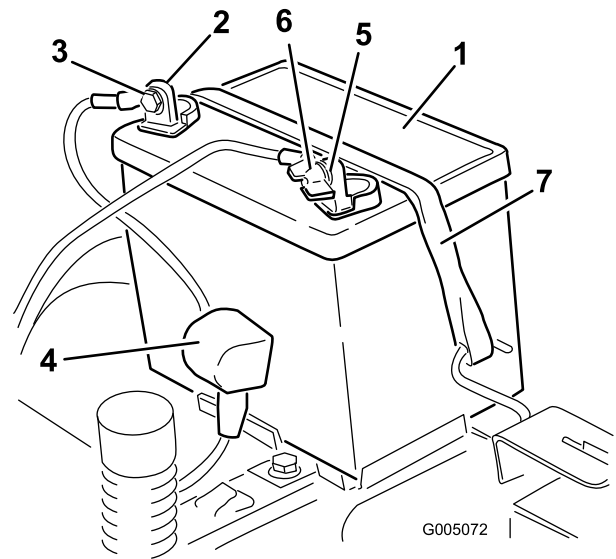

Figure 30
4. Disconnect the negative (black) ground cable from the battery post (Figure 30). Retain all fasteners.
5. Slide the rubber cover up the positive (red) cable. Disconnect the positive (red) cable from the battery post (Figure 30). Retain all fasteners.
6. Remove the battery hold-down (Figure 30) and lift the battery from the battery tray.
1. Position the battery in the tray with the terminal posts toward the operating position (Figure 30).
5. Secure the battery with the hold-down (Figure 30).